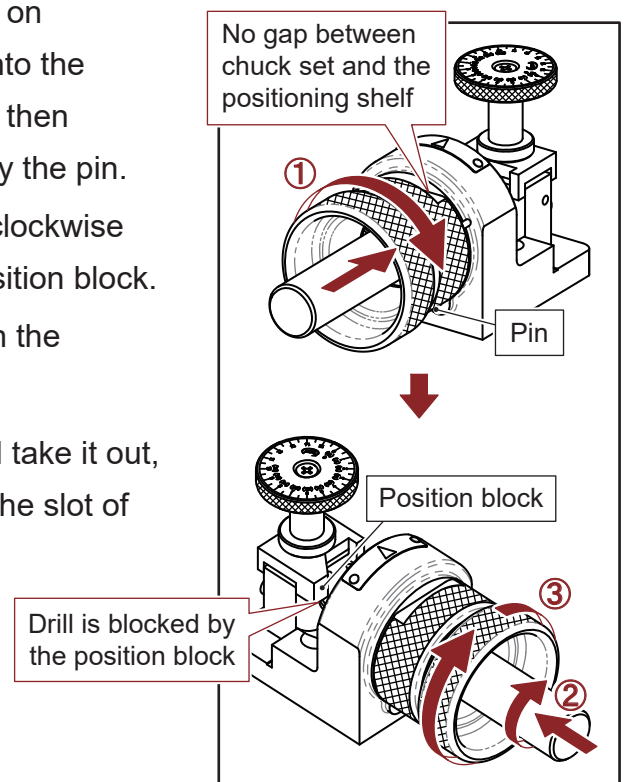
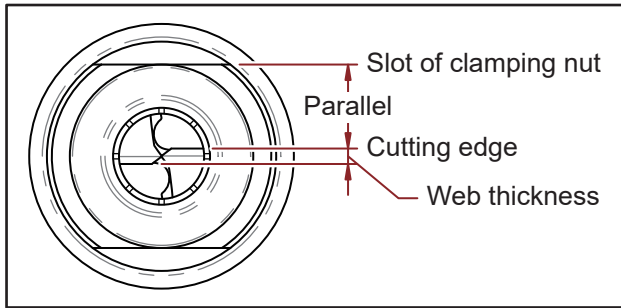

Fig. 8-3
Fig. 8-4
3. Drill positioning (Fig. 8-3) :
- ① Align the slot of the clamping nut to the pin on the positioning shelf, insert the chuck set into the positioning shelf and fit them with no gaps, then turn the chuck set clockwise until it stops by the pin.
- ② Push the drill to the end and slowly turn it clockwise until the drill's cutting edge touches the position block.
- ③ Turn the collet holder clockwise and tighten the chuck set to secure the drill.
4. Gently turn the chuck set counterclockwise and take it out, make sure the drill's cutting edge is parallel to the slot of the clamping nut (Fig. 8-4).